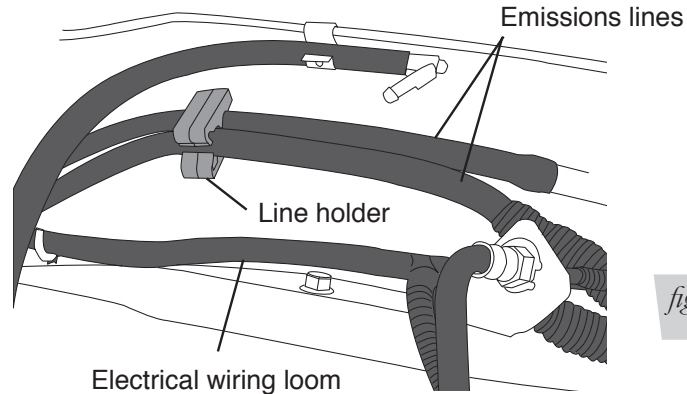

fig. 4
**Gas engine models** have emission lines on the inside of the frame. If your model truck has emission lines running along the inside of the frame rail (fig. 4), it will be necessary to relocate those lines as follows:
- Carefully push the line holder out of the frame above the axle. Try to minimize damage because it will be reused later. It may also be helpful to remove any holders forward or rearward of the axle to aid in positioning the lines once the upper brace has been installed (fig. 4). The same holds true with the electrical wire loom holders.